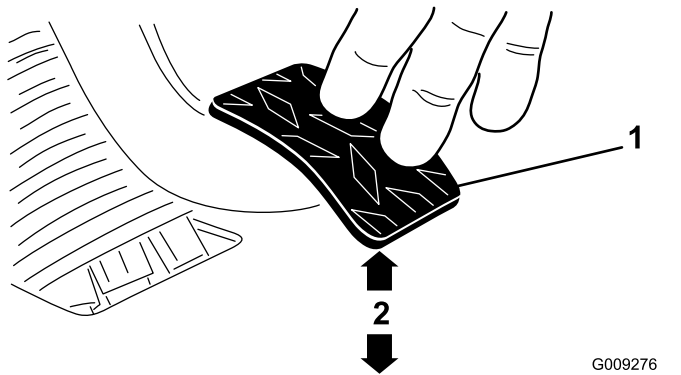

Figure 71
3. Adjust the jam nuts or ball joint until the rear edge of the clutch pedal is 9.2 to 9.8 cm (3-5/8 to 3-7/8 inches) from the top of the floor plate diamond pattern, when an 1.8 kg (4 lb) force is applied to the pedal (Figure 71).